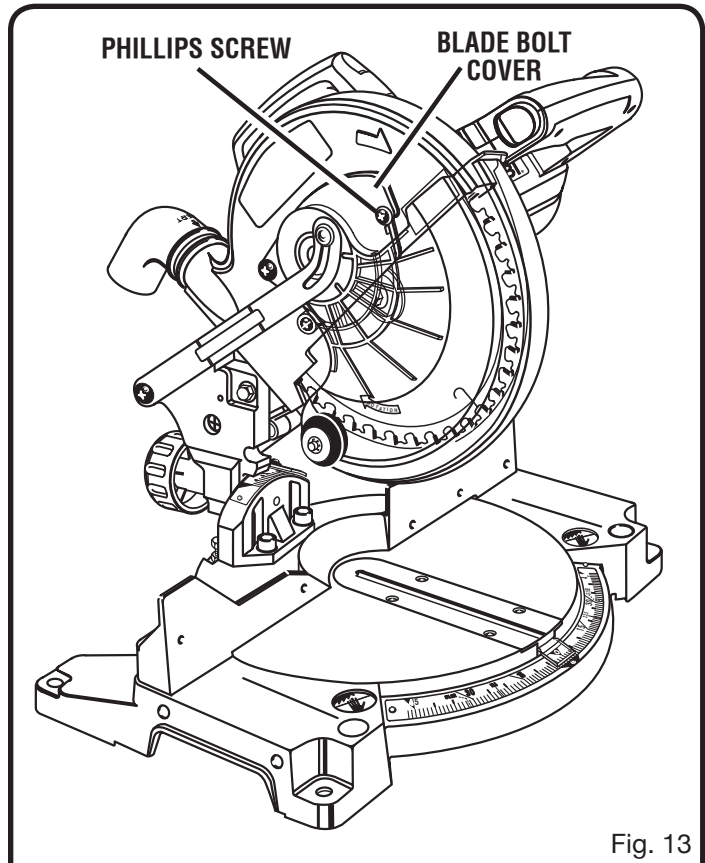

Fig. 13
See Figures 13 - 16.
- Loosen the phillips screw on the blade bolt cover until blade bolt cover can be raised. See Figure 13.
*See Figures 13 - 16.*
- Loosen the phillips screw on the blade bolt cover until blade bolt cover can be raised. *See Figures 13 - 15.*